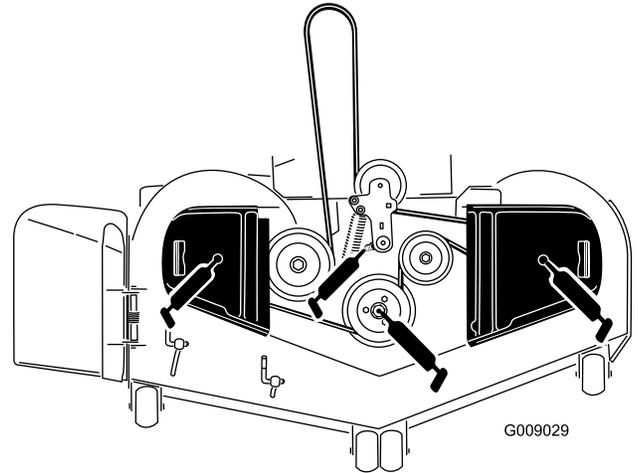

Figure 44
3. Grease the mower-deck idler pulley pivot until grease comes out the bottom (Figure 44).
4. If your machine has greasable spindles, grease the 3 spindle bearings until grease comes out the lower seals (Figure 44).